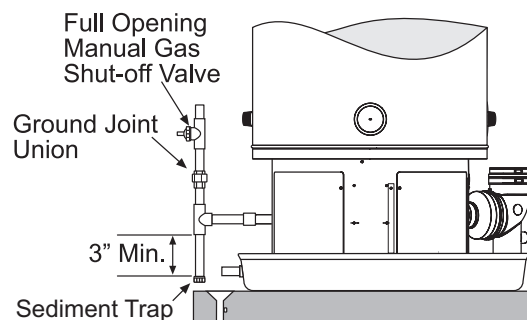

Figure 37
Follow the instructions below and reference Figure 37 for gas piping installation.
4. Install a ground union between the water heater and the manual shut-off valve. This is to allow easy servicing. See Figure 37 below.
- For test pressures exceeding 1/2 psi (3.45 kPa) disconnect the water heater and its Main Gas Shutoff Valve from the gas supply piping system during testing, see Figure 37 on page 31. The gas supply line must be capped when disconnected from the water heater.